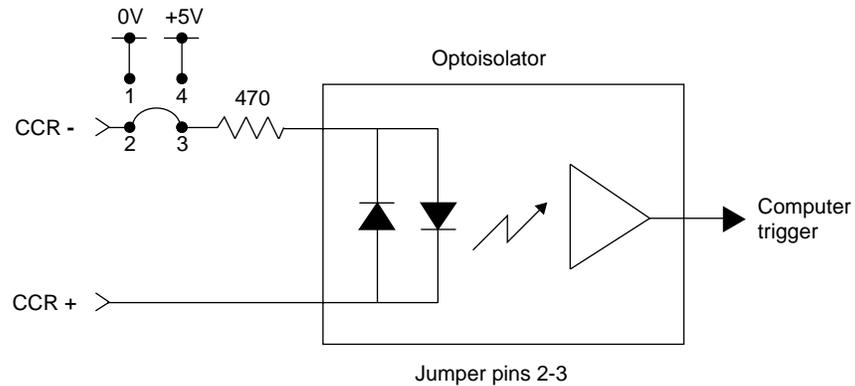

Figure A-7 Jumpering for GPI Current Sense Mode
3. Figure A-7 shows current sense jumpering.